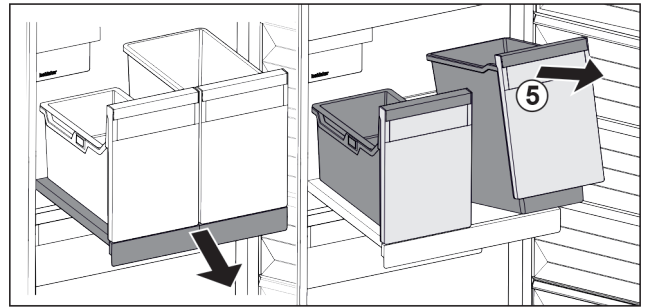

Fig. 96
- ▶ Lift the container Fig. 96 (5) at the front.